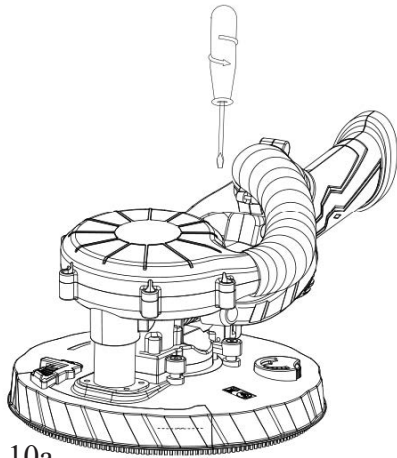

fig. 10a
13. Removing or replacing the dust hose (figure 10a - 10b).